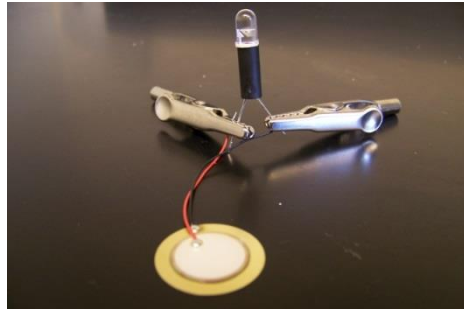

Figure 3. Piezoelectric disk ready to be tested
4. Place the ceramic disk on a flat surface and tap down on the white center (Figure 3). Start with a very light tap and slowly increase the force until the LED visibly flashes with each tap. Show effect to students. It is important to simply tap the disk and to not apply steady pressure. NOTE: The room must be fairly dark to see the LED light.